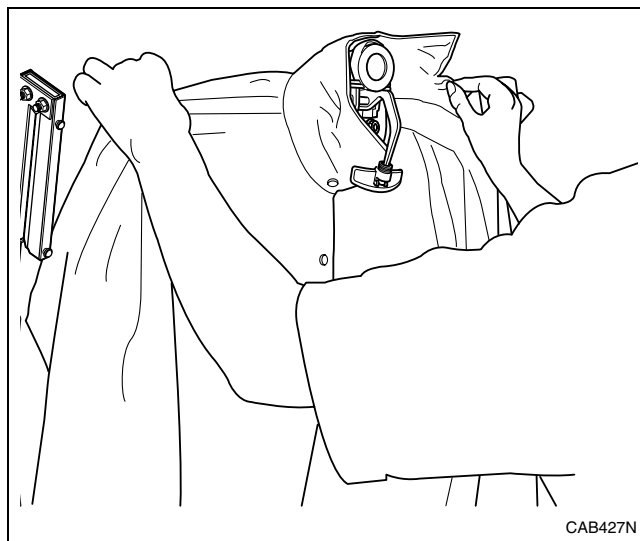

Figure 18
17. Press right foot pedal to release collar clamp. Lift right side of shirt. Move right shoulder clear of buck with a slight upward then backward motion of your hand. Do not swing your right arm over the buck (that would be unnecessary motion). Refer to *Figure 18*.